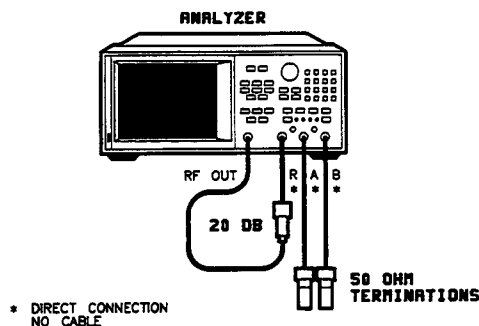

Figure 4. Receiver Noise Level Test Setup
1. Connect the equipment as shown in Figure 4 and press **[PRESET] [MENU] [POWER] [-] [1] [0] [x1] [MKR FCTN] [STATS ON]** to set up the instrument. When **[STATS ON]** is pressed, *mean*, *s.dev*, and *p-p* values will appear.